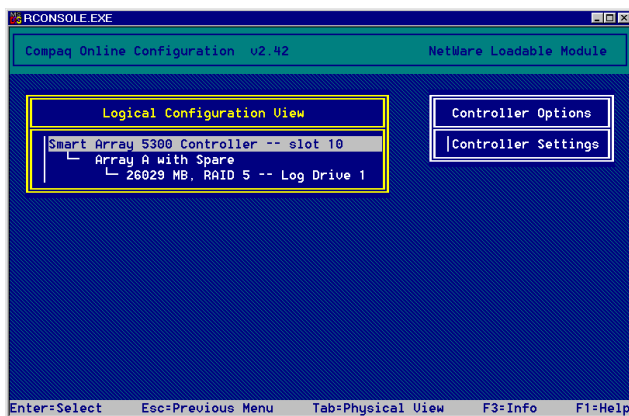

Figure 7-22: Main manual configuration screen
- If logical drives are present on the controller, the manual configuration screen (see Figure 7-22) is displayed.